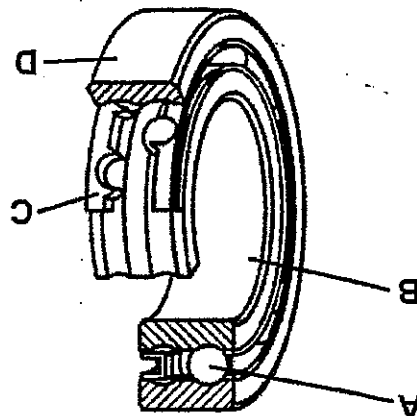

FIGURE 2
3.2 Refer to FIGURE 2 of the bearing.